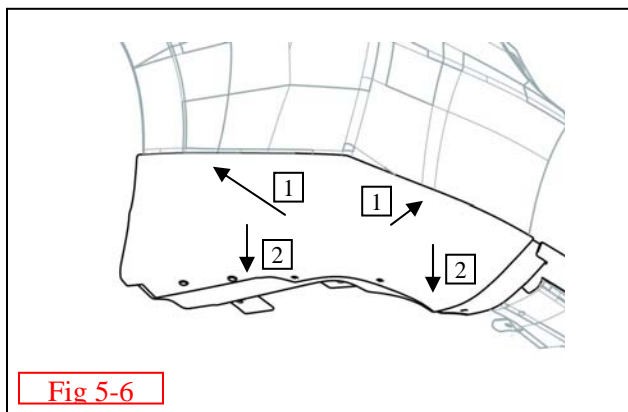

Fig 5-6
- (l) Locate rear LH skirt; spray the bumper area above the brackets with a soapy water solution. Install the side skirt by pushing up and in see arrows(1) on the part **make sure to clear all tabs** and then bringing the entire part down (2) so that the **tabs engage to the bracket.** (Fig.5-6) Check the part for looseness and gapping. **Do not install any hardware yet.**